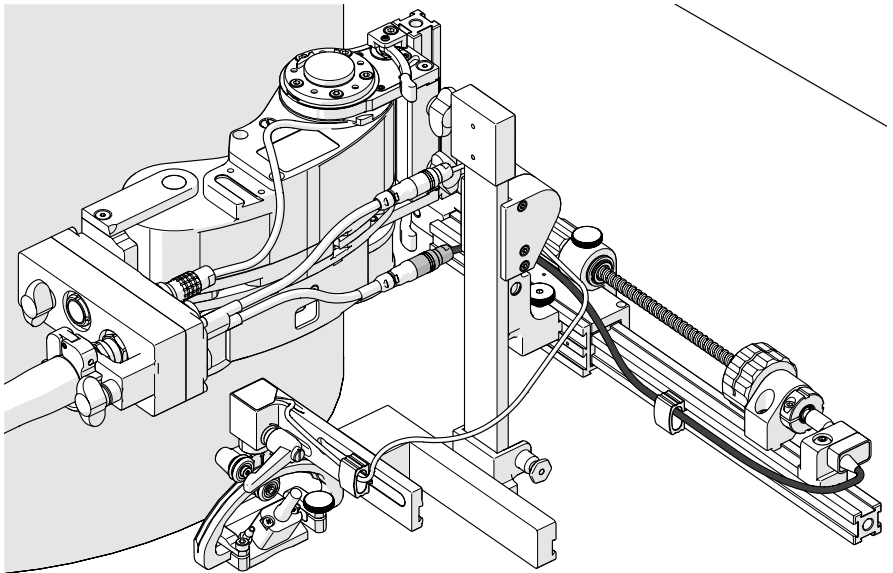

Fig. 252 - Route encoder cable to the 3-axis encoder cable
4. Route the encoder cable as required to plug into the 3-axis encoder cable (*Fig. 252*).